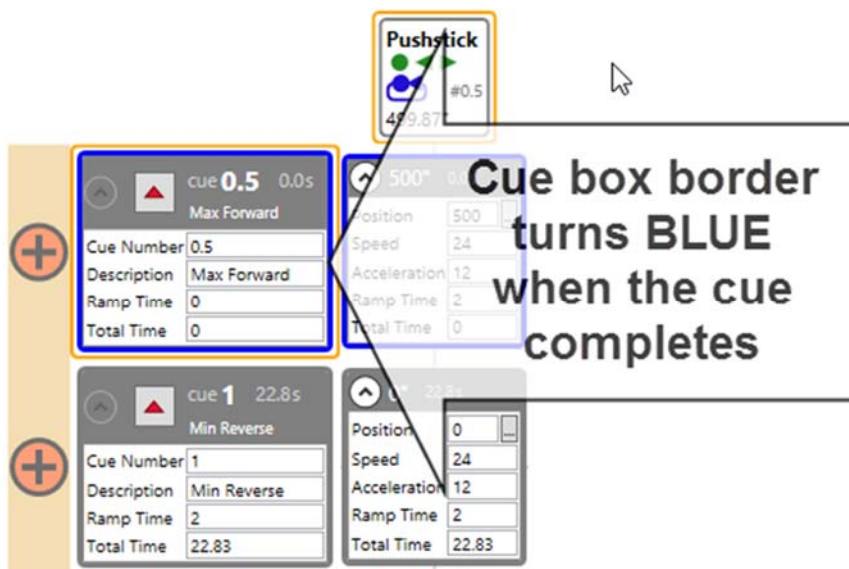

Figure 98
5. When the cue completes, the border around the cue in the **Cue Grid** turns blue (Figure 98).